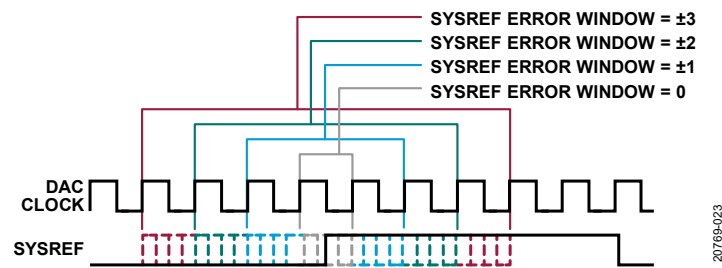

Figure 24. SYSREF\_ERROR\_WINDOW Setting Example
Register 0x00B7 is set in units of DAC clocks. Figure 24 shows the relation between the SYSREF\_ERROR\_WINDOW setting, the DAC clock, and the SYSREF (averaged or sampled). As long as the SYSREF is aligned to the internal LMFC/LEMFC reference to within the limits set in the SYSREF\_ERR\_WINDOW register, the SYSREF\_WITHIN\_LMFC\_ERRWINDOW bit is set to 1. If the value is outside this limit, the value is 0.
6. Use the SYSREF\_ERR\_WINDOW register (see Table 18) to set up SYSREF tolerant window. The user can set a certain error window, and the synchronization IRQ is asserted only when the external SYSREF signal is out of the window on the internal LMFC/LEMC (see Figure 24). Note that the error window is only available for SYSREF monitor mode.